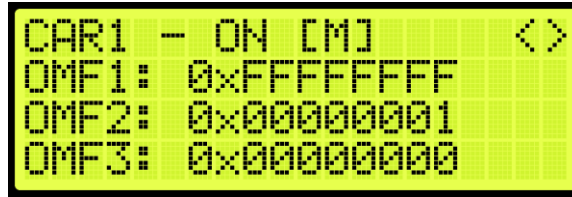

Figure 364: Front Opening Map Status
4. From the Front Opening Map Status (See Figure 364), press the right button.